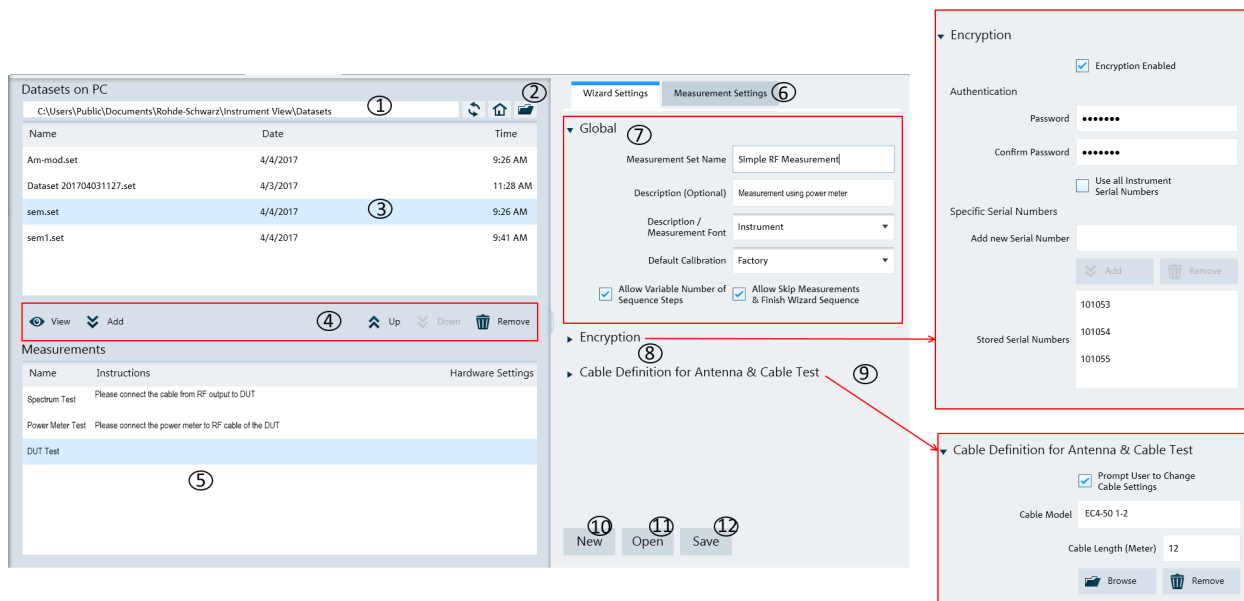

Figure 5-42: Wizard editor
The measurement table list forms the measurement sequence in the wizard set. See item 5 in Figure 5-42
The "Wizard " editor allows you to open, edit and save the measurement wizard set. See Figure 5-42.
To arrange the measurement sequence in the wizard set, double clicked or "Add" the desired dataset from the PC folder directory to the measurement table list. See index 4 and 5 of Figure 5-42.
Navigates from the list of datasets in the measurement table list (see index 5 of Figure 5-42) and select the desired dataset for configuration.